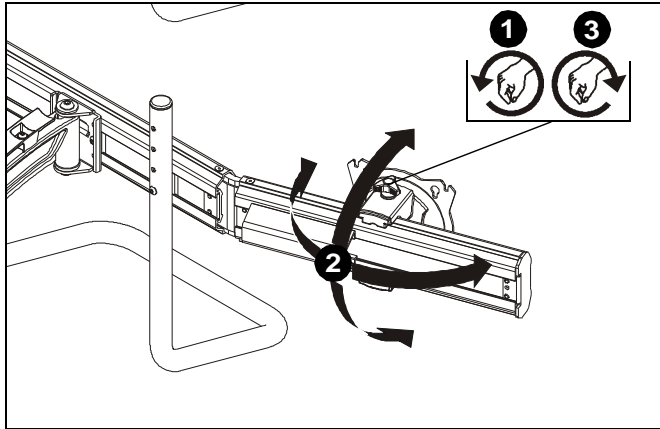

Figure 17
1. Loosen knob on top of faceplate assembly. (See Figure 17)
2. Adjust pitch, roll and/or yaw as desired. (See Figure 17)
3. Tighten knob to secure desired faceplate position. (See Figure 17)